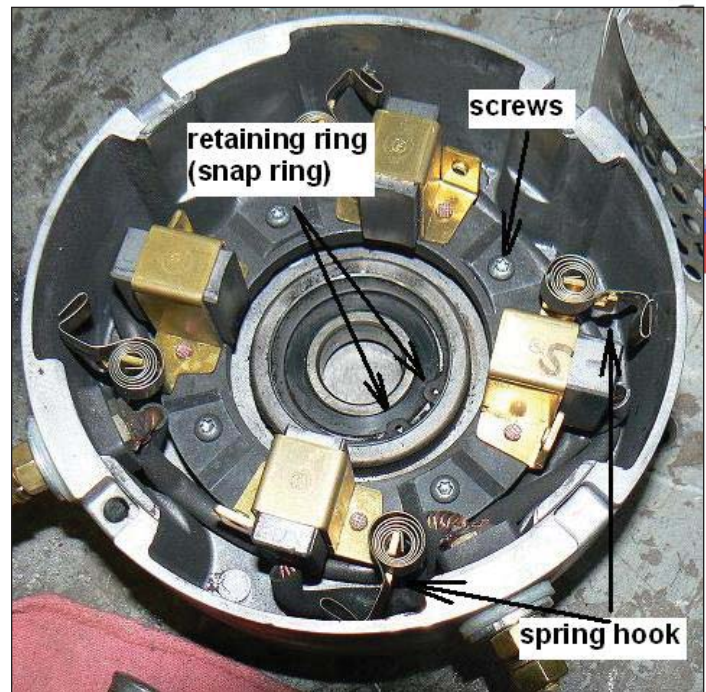

Figure 9-5. Spring Hooks for Brush Springs
- Move brush springs behind spring hooks shown in Figure 9-5.
- Remove bearing retainer (snap ring) shown in Figure 9-5. Carefully press out the bearing from motor head. Replace the bearing.